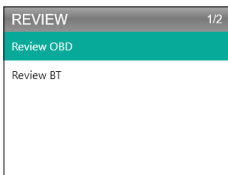

Figure 5.1.2
2. In the submenu, you can select to review the OBDII diagnostic records or battery test results. (See Figure 5.1.2)